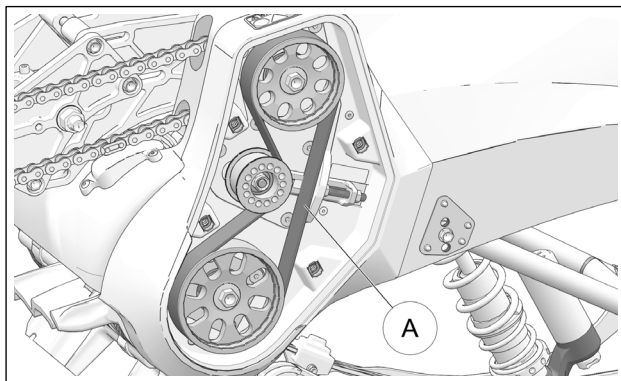

Figure 52
Check the general condition of the Syncro Drive belt (A). If you notice cracks or missing teeth, if cord is showing or there is abnormal wear, replace the belt. Figure 52.